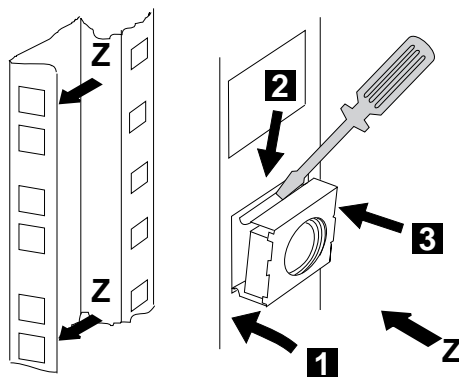

Figure 1-4. Installing the Captive Nuts for the 7585
2. \_\_\_\_ Refer to Figure 1-4 and install four captive nuts (PN 58G5766) on the left and right side of the controller expansion.